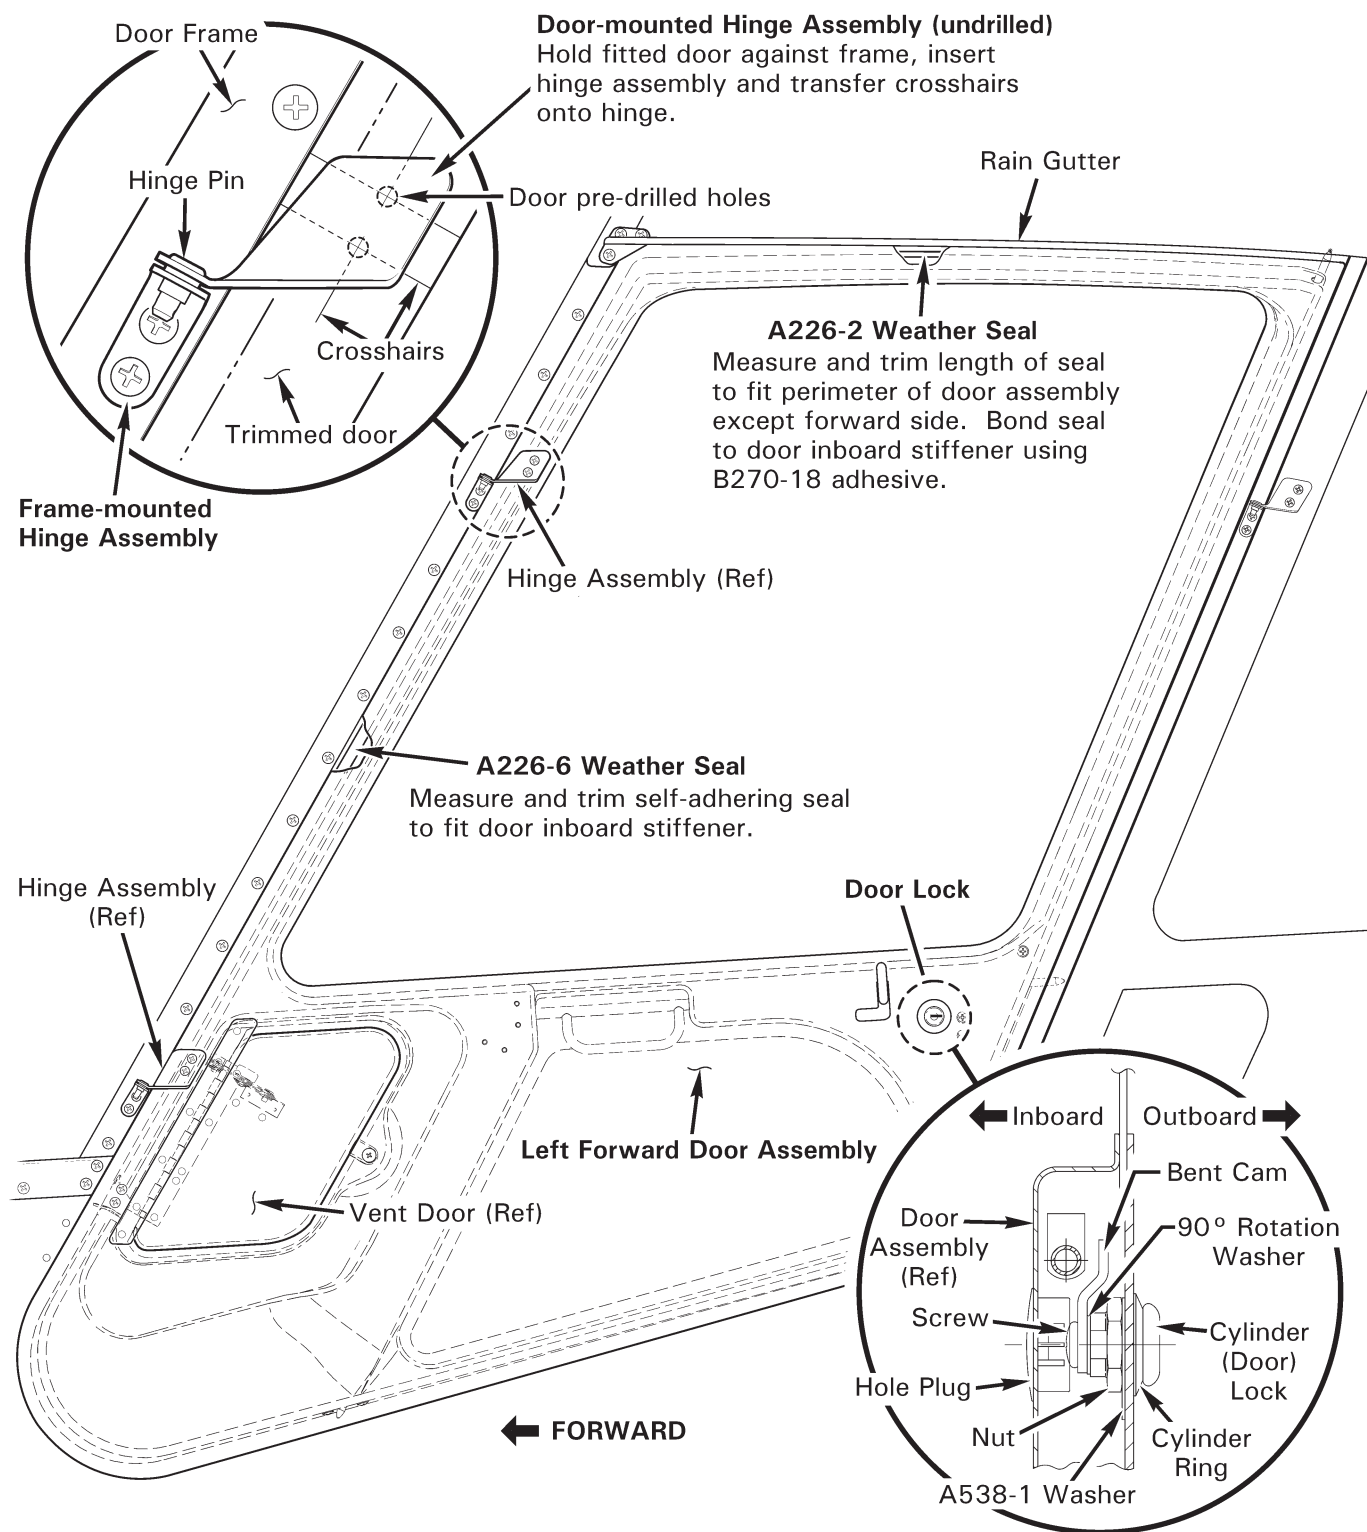

FIGURE 27-1 DOOR ASSEMBLY
1. Refer to Figures 27-1 and 27-2. To disconnect door from gas spring mechanism:
1. Refer to Figures 27-1 and 27-2. Align and insert door hinge pins in door frame hinge assemblies.
1. Refer to Figure 27-1. As required, lay masking tape on surfaces of door frame, new door hinges, and new door, to mark with soft pencil.
2. Refer to Figure 27-1. Remove hole plug opposite key slot on door interior.
2. Refer to Figure 27-1. Measure and trim continuous length of A226-2 seal to fit perimeter of door except forward side, as shown. Neatly bond seal to stiffener using B270-18 adhesive. Wipe away excess adhesive prior to curing.